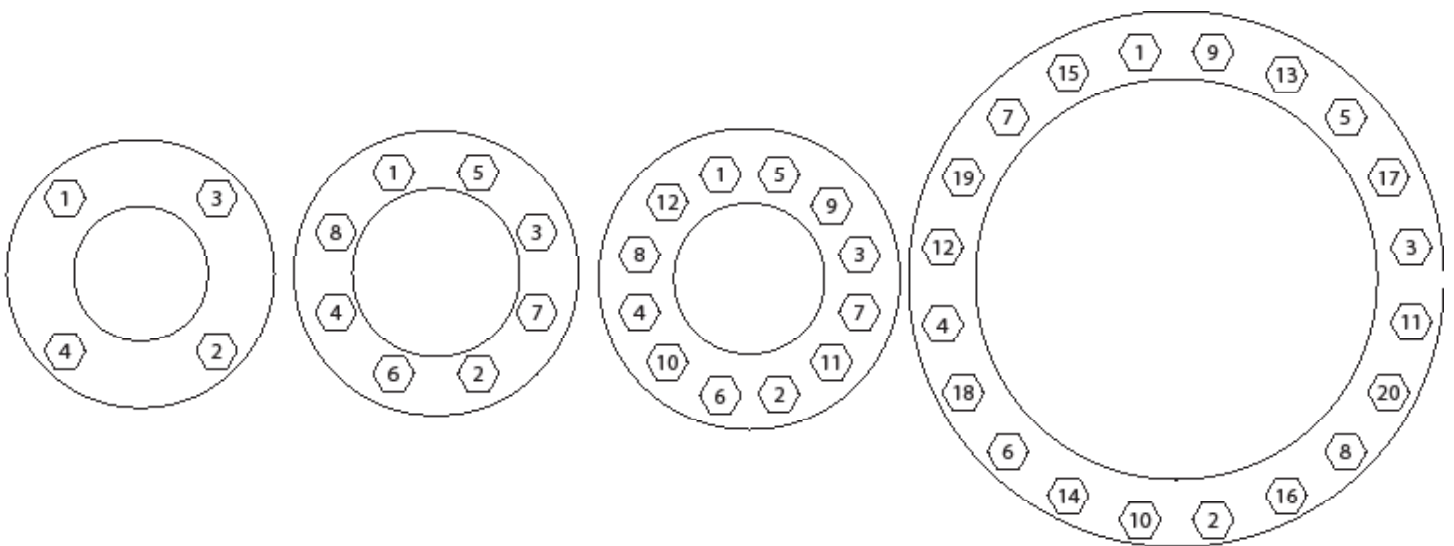

FIGURE 1: BOLTING SEQUENCE
5. Line up, center and secure the valve between the flanges using the desired bolts or studs. Use proper bolting sequence as shown in Figure 1.